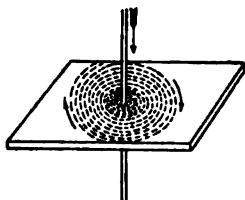

FIG. 229.—Magnetic field about a wire carrying an electric current.
**256. Right-hand Rule for a Conductor.**—To show the presence of the magnetic field about a current, pass a thick copper wire vertically through a sheet of paper, and connect the ends of the wire to a source of current. While the current (this should be as much as 10 amperes if possible) is flowing, sprinkle iron filings upon the paper and tap gently. The filings will arrange themselves in circles about the wire showing the magnetic field. (See Fig. 229.) The needle of a magnetoscope tends to place itself parallel to the lines of force of this field and from this action or